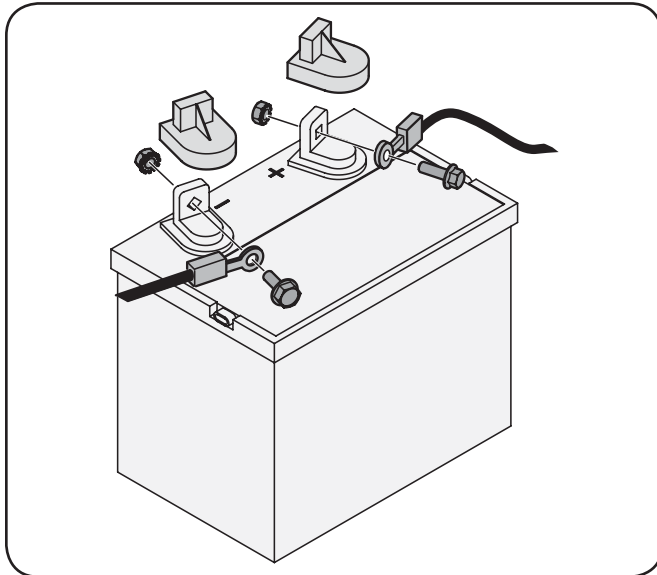

Figure 3-2
1. Remove the plastic cover, if present, from the positive battery terminal and attach the red cable to the positive (+) battery terminal with the bolt and hex nut. See Fig. 3-2.
2. Remove the plastic cover, if present, from the negative (-) battery terminal and attach the black cable to the negative (-) battery terminal with the bolt and hex nut. See Fig. 3-2.